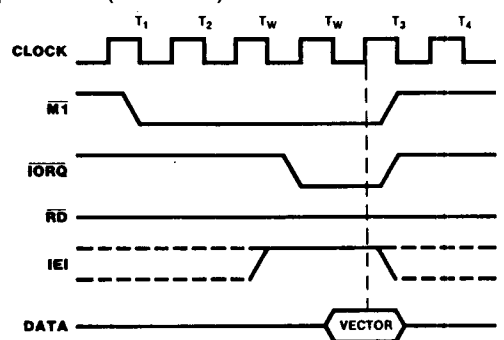

Figure 17. Interrupt Acknowledge Cycle
**Interrupt-Acknowledge Cycle.** After receiving an interrupt-request signal from an SIO ( $\overline{INT}$  pulled Low), the Z80 CPU sends an interrupt-acknowledge sequence,  $\overline{M1}$  Low and  $\overline{IORQ}$  Low, a few cycles later (Figure 17).